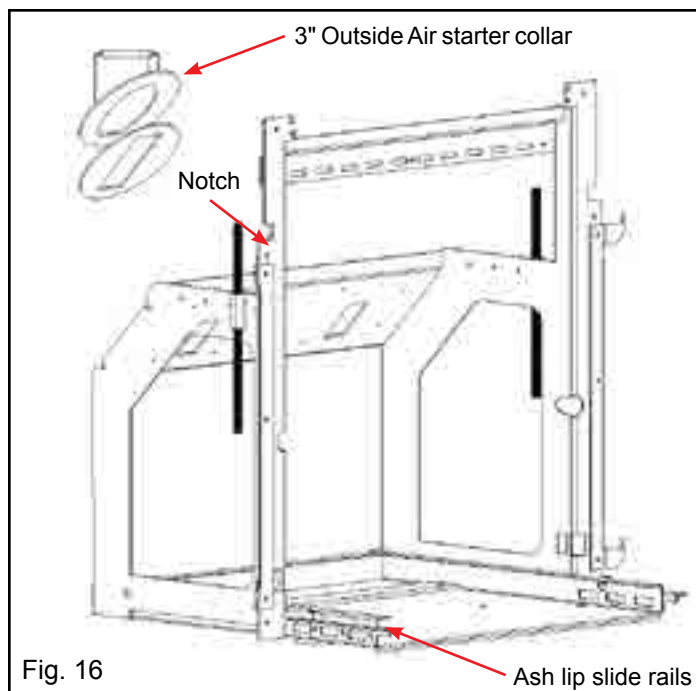
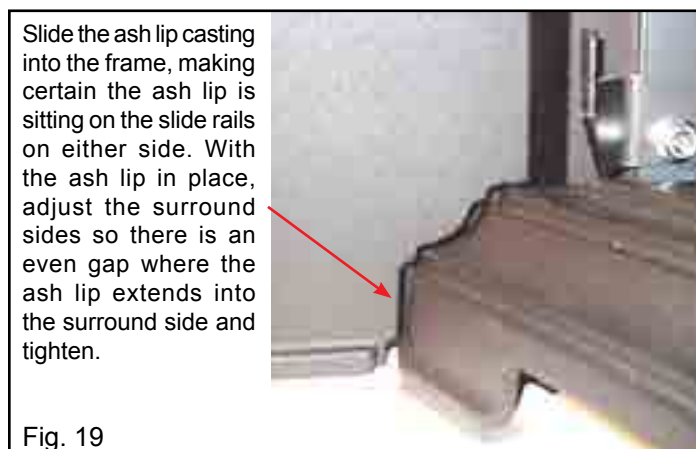

Fig. 16
Fig. 19
3. **Installing the 3 piece cast surround:** Install the left and right cast sides to the mounting frame using the 1/4-20 x 3/8 bolts supplied. Install (4) 1/4-20 x 3/4" set screws into the top wing. Then install the top wing onto the frame using the (4) 1/4-20 nuts. The left and right side should be done before the center section is installed. Make sure the bolts are loose. Do not remove the side panel hinges. The left and right side wings should be standing up aligned with the side of the mounting frame and slid inward towards the center. Note: The wings mount on the rear side below the notch and on the front side above the notch. See Fig. 16 & 18. Slide the cast ash lip onto the frame and check to make sure it can go against the roped frame rails and fits into the pockets on the left and right cast sides. See Fig. 19.